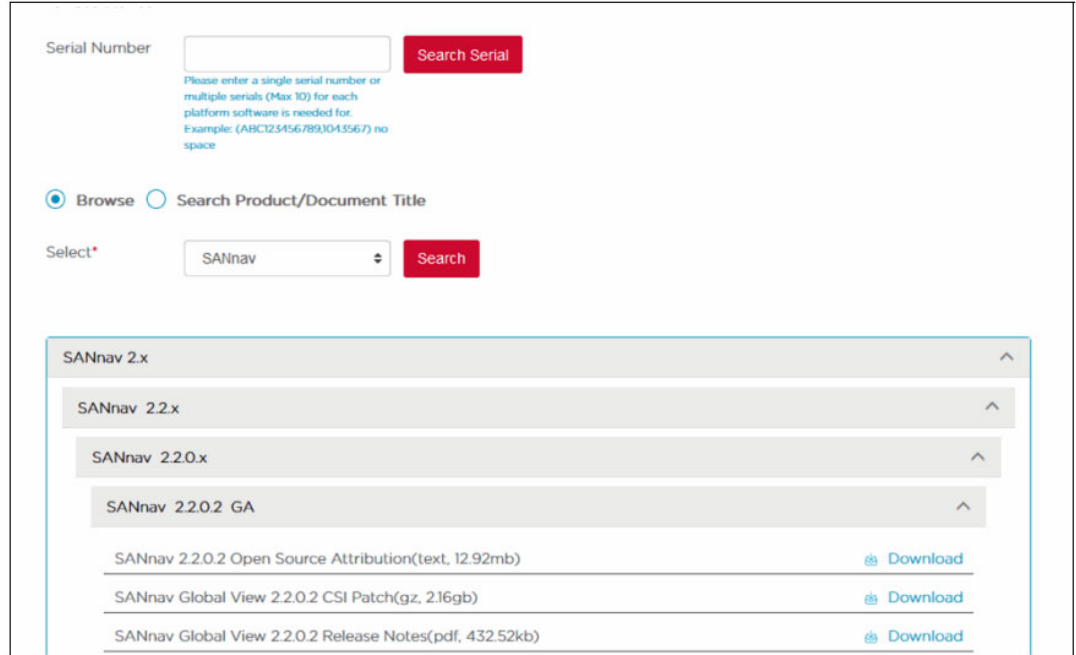

Figure 9-10 Selecting the files to download
13. Select the files to download (Figure 9-10).